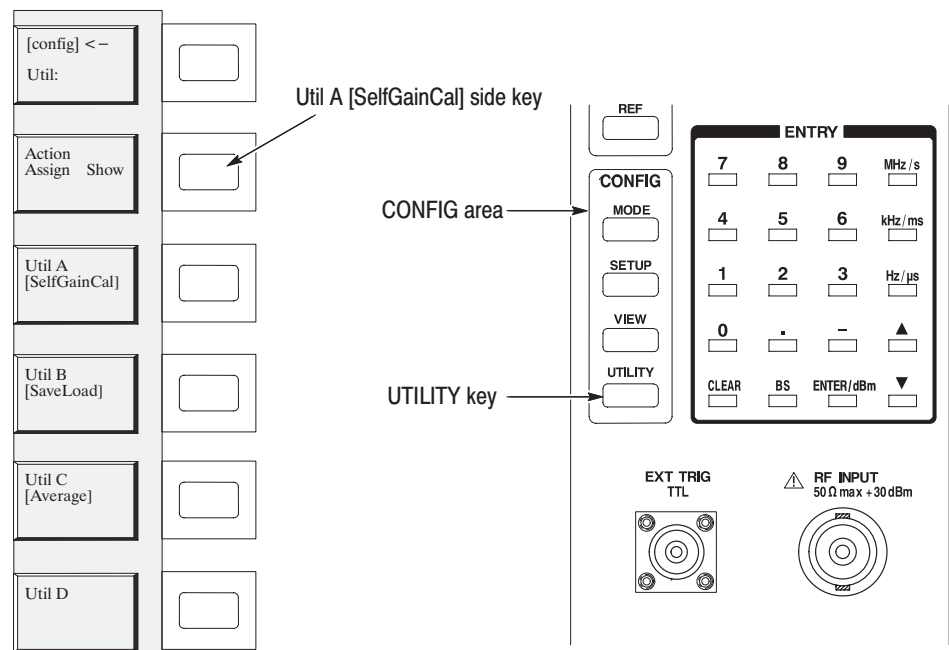

Figure 1–10: Running the self gain calibration
Connect the standard mouse to the rear panel connector before turning the analyzer power on (See Figure 1–3).
When the New clock settings dialog box appears. If Windows 95 displays the “New clock settings” dialog box at power-on (see Figure 1–5), press the OK button with the mouse to start the analyzer application.
Self Test After you turn on the power, this analyzer performs a pass/fail test for each of the digital circuits by using the self test routine. Upon completion, it displays the result on the monitor display as shown in Figure 1–6. If the test fails in any item, contact your Tektronix Field Office or representative.
Subsequently, the initial screen in Figure 1–7 appears.
If the system is abnormal, check that the Power Switch on the front panel is ON. Subsequently, press the Reset Switch above the Power Switch (see Figure 1–4) to reboot the system. Then, place the Power Switch in the STAND-BY position.
During operation, when the ambient temperature varies by ± 3 °C or more relative to the temperature at the previous calibration, UNCAL is displayed in red in the hardware status display area (see Figure 1–9). This means that you should run the calibration.
1. Press the **UTILITY** key in the front panel CONFIG area (see Figure 1–10).